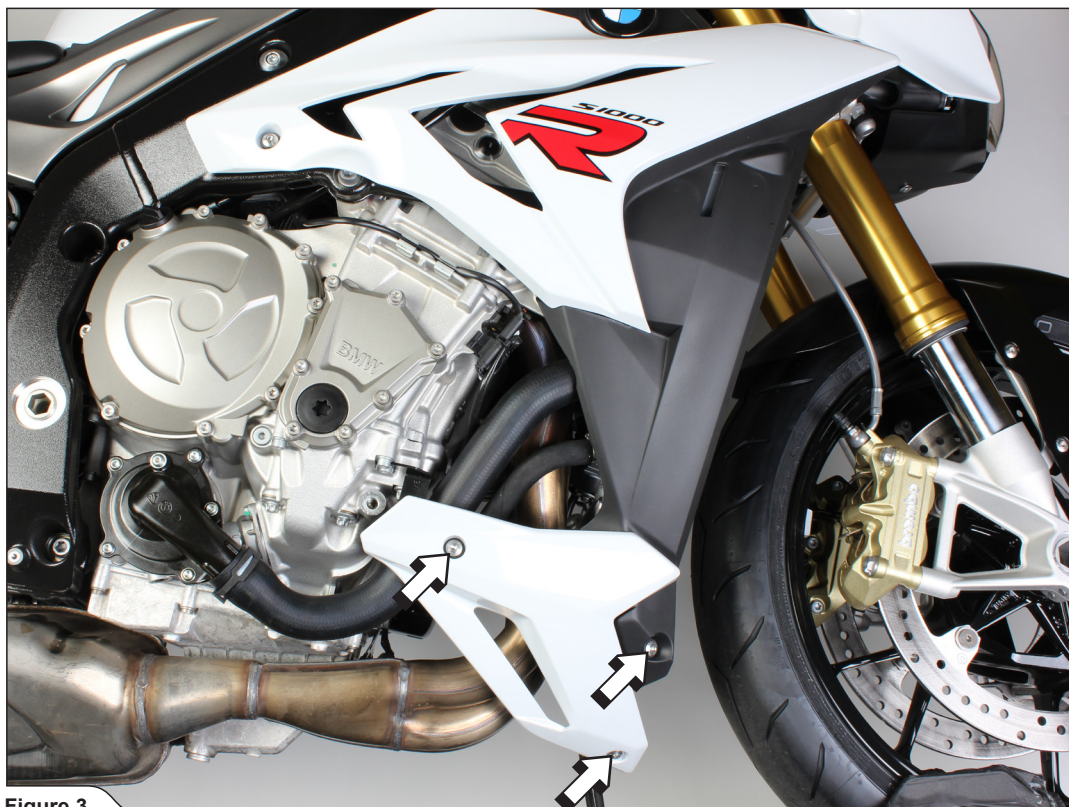

Figure 3
4. Unscrew the marked bolts on both sides of the motorcycle and carefully remove the lower and middle parts of the cowling off the motorcycle (Figure 3).